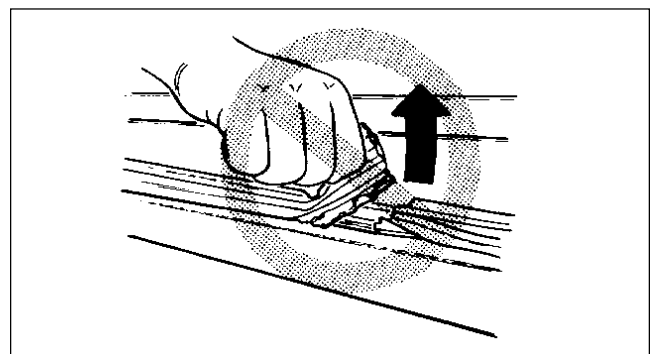

Figure 154
6. **DO NOT PULL ON THE GASKET.** This action will pull the interior door liner away from the exterior door panel. To remove the gasket, pull away from the door. See Figures 154 and 155.